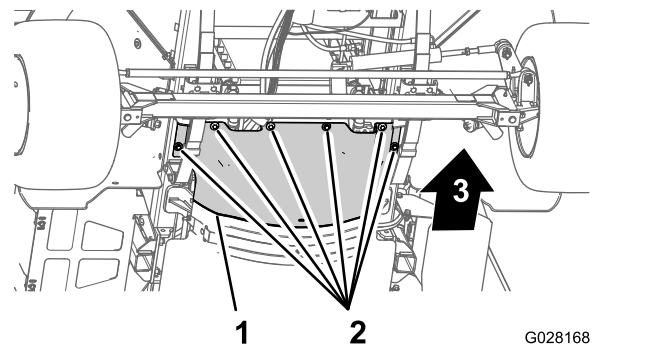

Figure 59
3. Remove the 6 hex-head bolts and 6 washers that secure the front, forward heat shield to the chassis and remove the shield (Figure 59).